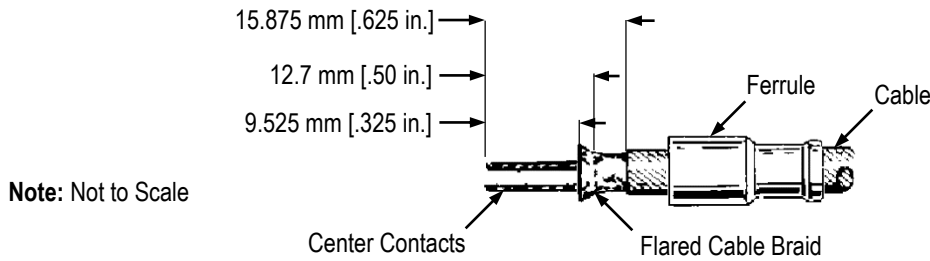

Figure 2
2. Slide the ferrule, small diameter end first, onto the cable. See Figure 2.
3. Strip the cable using the dimensions given in Figure 2.